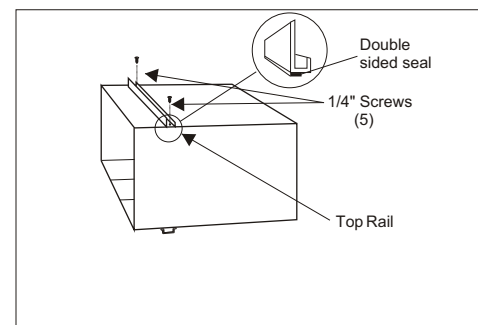

Fig. 3
Stick the double sided seal to the top channel, and then Install it to the cabinet as shown in (Fig. 3) using (5) 1/4" screws.